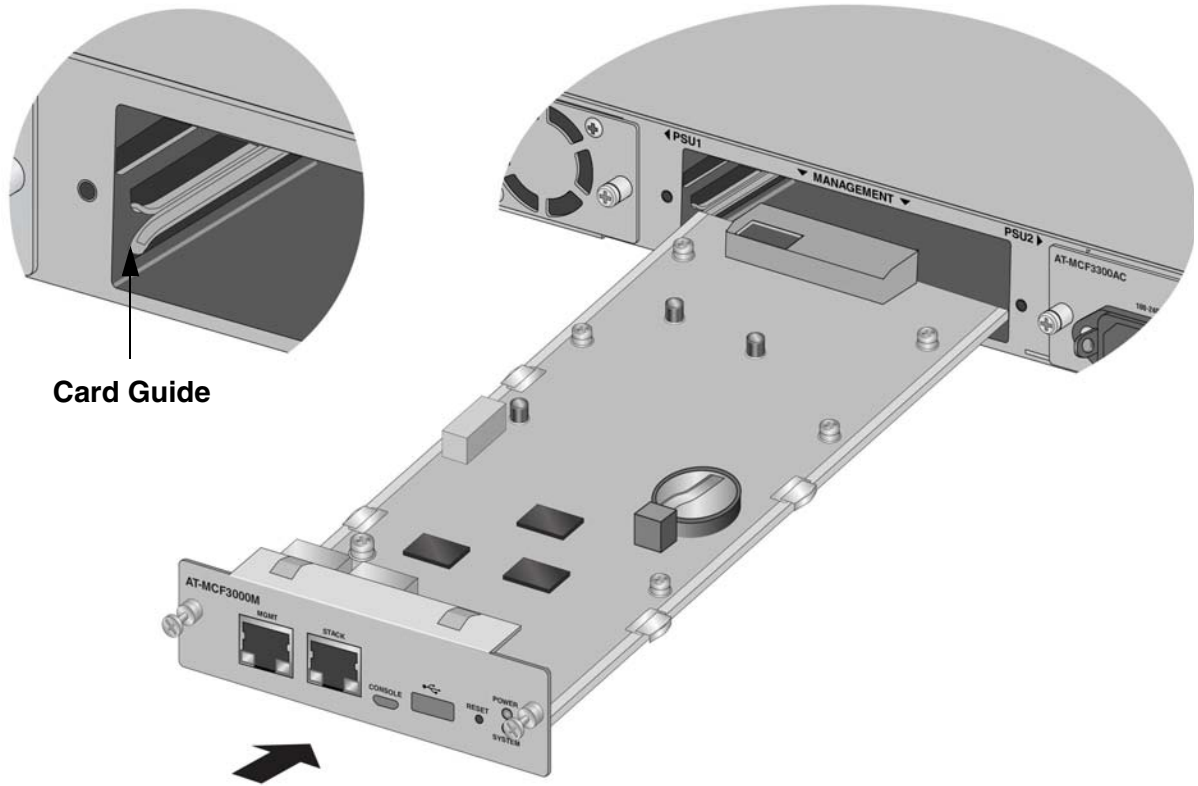

Figure 31. Installing the Management Module
4. Align the edges of the module with the card guides in the slot and carefully slide the module into the chassis until it makes contact with the connector on the backplane inside the chassis. Refer to Figure 31 on page 69